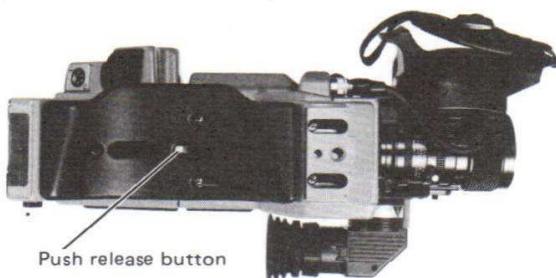

Fig. 2-2-2
- While pushing release button remove the camera adaptor by pulling it backward. (Fig.2-2-2)